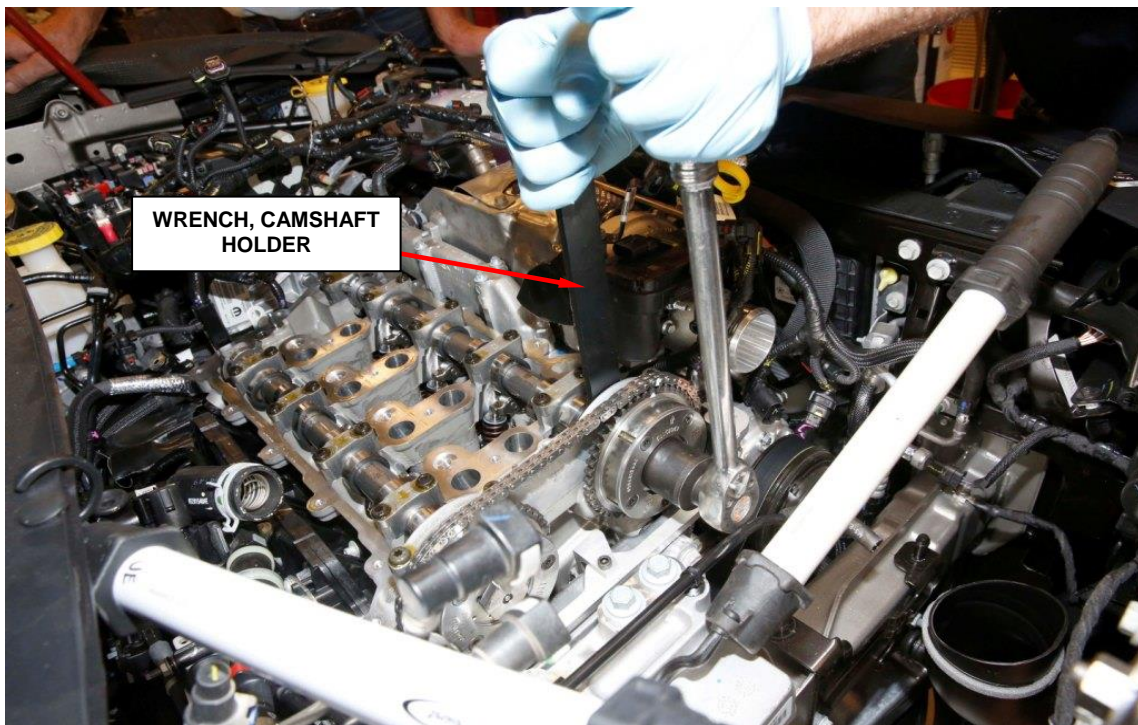

Figure 22 – Camshaft Loosening
56. Use the camshaft Wrench, Camshaft Holder **2050800090** to hold the camshaft while loosening the intake and exhaust oil control valves only **do not** remove, the intake oil control valve and exhaust oil control valve at this point (Figure 22).